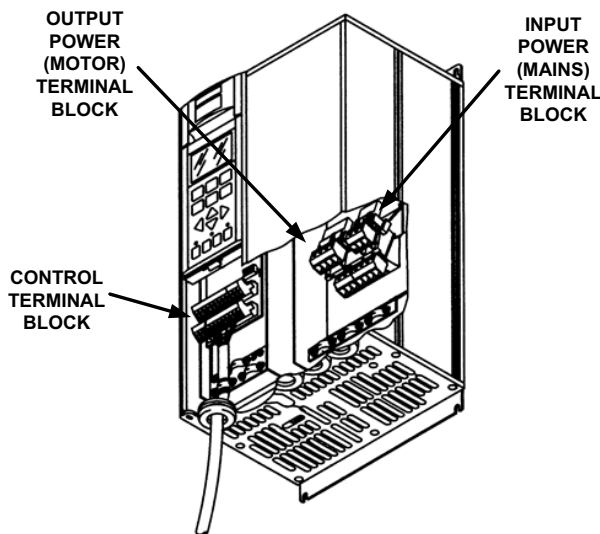
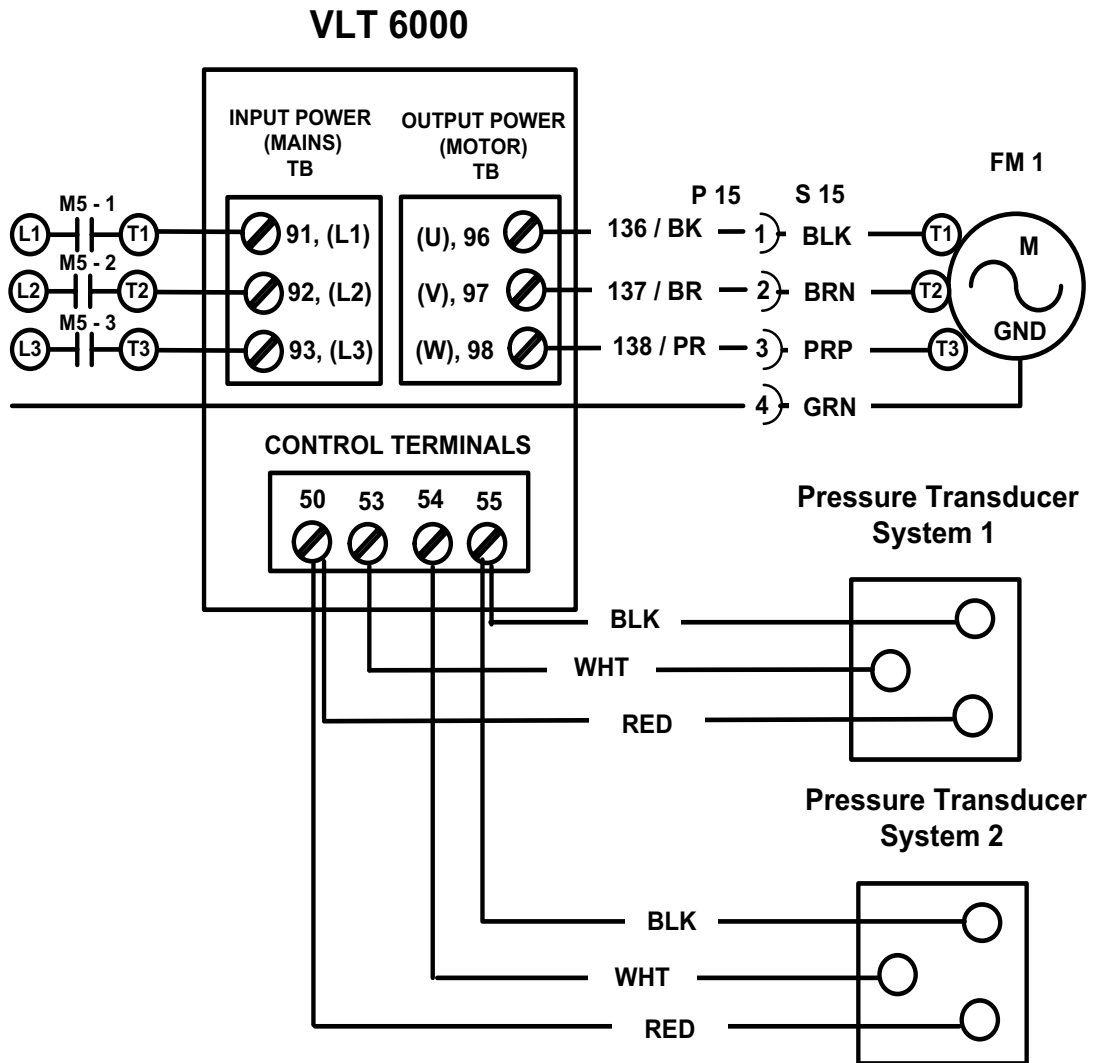

FIGURE 6 - POWER AND CONTROL TERMINAL BLOCKS
FIGURE 8 - SIMPLIFIED WIRING DIAGRAM
5. Wire transducers to the VLT6000 control. See Figure 6.
- Route power wires, motor leads, and transfer signal wires through separate knockouts. See Figure 6.
- Connect Red Wire from Transducer #1 to terminal (50) on the VLT6000.
- Connect Black Wire from Transducer #1 to terminal (55).
- Connect White Wire from Transducer #1 to terminal (53).
- Connect Red Wire from Transducer #2 to terminal (50).
- Connect Black Wire from Transducer #2 to terminal (55).
- Connect White Wire from Transducer #2 to terminal (54).
7. Wire condenser fan motor #1 to the VLT6000 control. See Figure 6 and SWD Figure 8.